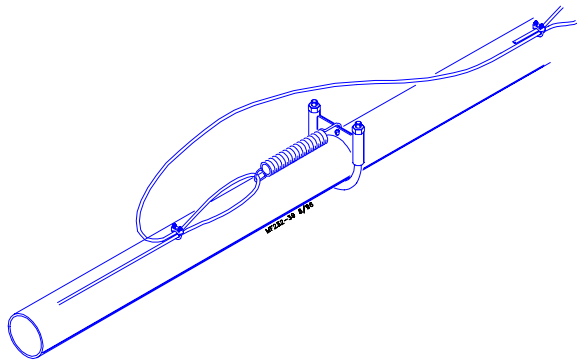

Figure 45.
6. There is not enough room between the feed hopper and the first feeder pan to attach and stretch the spring. Install the spring in between the first and second pan after the hopper. Then route the cable back to the first pan and attach to the feed tube cable assemblies. See Figure 45.